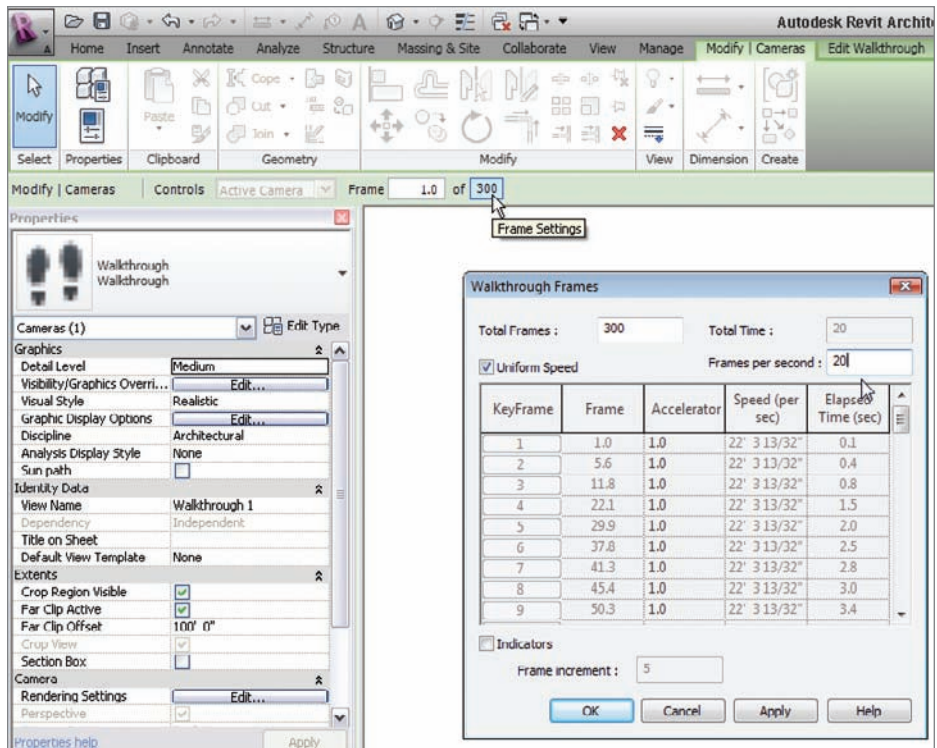

FIGURE 19.21 Changing the frames
14. When the walkthrough is done, you can click the button that contains the value of 300 (this is the number of frames) on the Options bar, as shown in Figure 19.21.